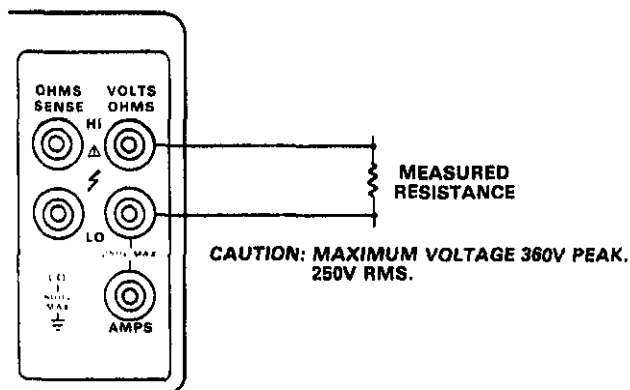
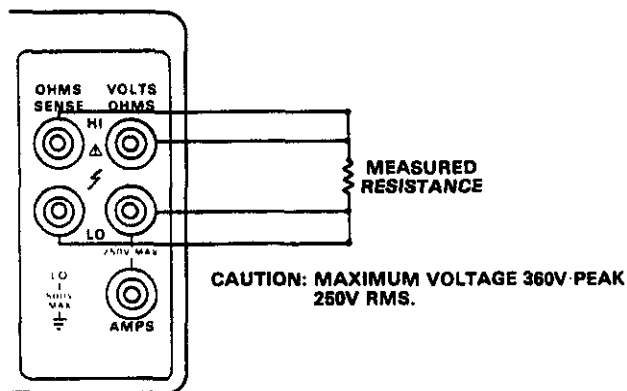

Figure 2-7. Two-Terminal Resistance Measurement (Front Panel Connections Shown)
Figure 2-8. Four-Terminal Resistance Measurements (Front Panel Connections Shown)
- For two wire measurements, connect the instrument to the measured resistance as shown in Figure 2-7. For four-wire measurements, use the connections shown in Figure 2-8.